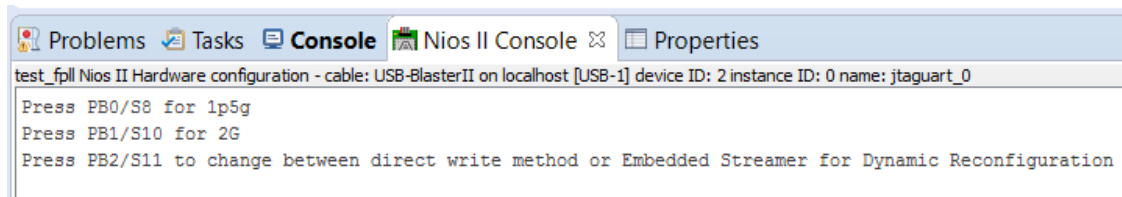

Figure 6. Nios II Console
12. After successfully run the software, you will see the push button option at Nios II Console as Figure 6